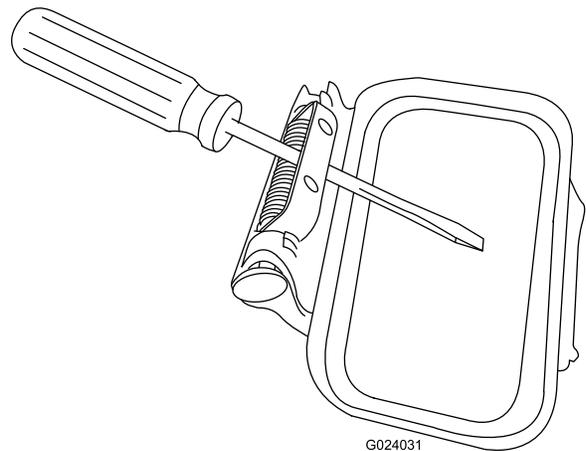

Figure 10
6. Wedge the side-discharge-door assembly open with a large screwdriver so that you can install the door assembly onto the mower housing (Figure 10).